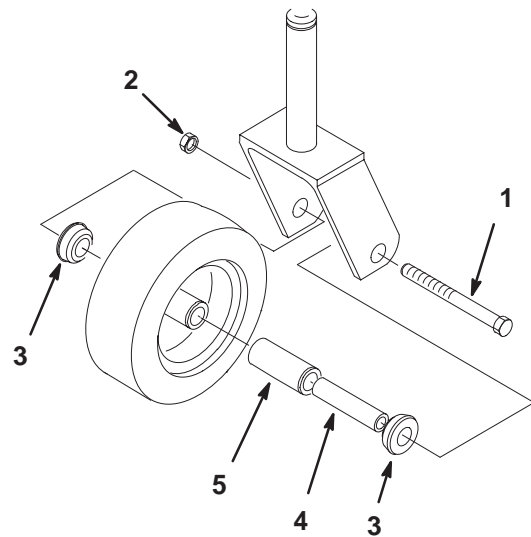

Figure 63
- Remove the locknut and wheel bolt holding the castor wheel to the castor fork (Fig. 63).
- Remove one bushing, then pull the spanner bushing and roller bearing out of the wheel hub (Fig. 63).
- Remove the other bushing from the wheel hub and clean any grease and dirt from the wheel hub (Fig. 63).
- Inspect the roller bearing, bushings, spanner bushing and inside of the wheel hub for wear. Replace any defective or worn parts (Fig. 63).
- To assemble, place one (1) bushing into the wheel hub. Grease the roller bearing and spanner bushing and slide them into the wheel hub. Place the second bushing into the wheel hub (Fig. 63).
- Install the castor wheel into the castor fork and secure with the wheel bolt and locknut. Tighten the locknut until the spanner bushing bottoms against the inside of the castor forks (Fig. 63).